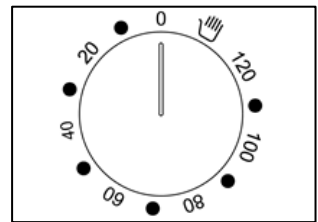

Fig.25
**USING THE END OF COOKING TIMER (fig 25)**